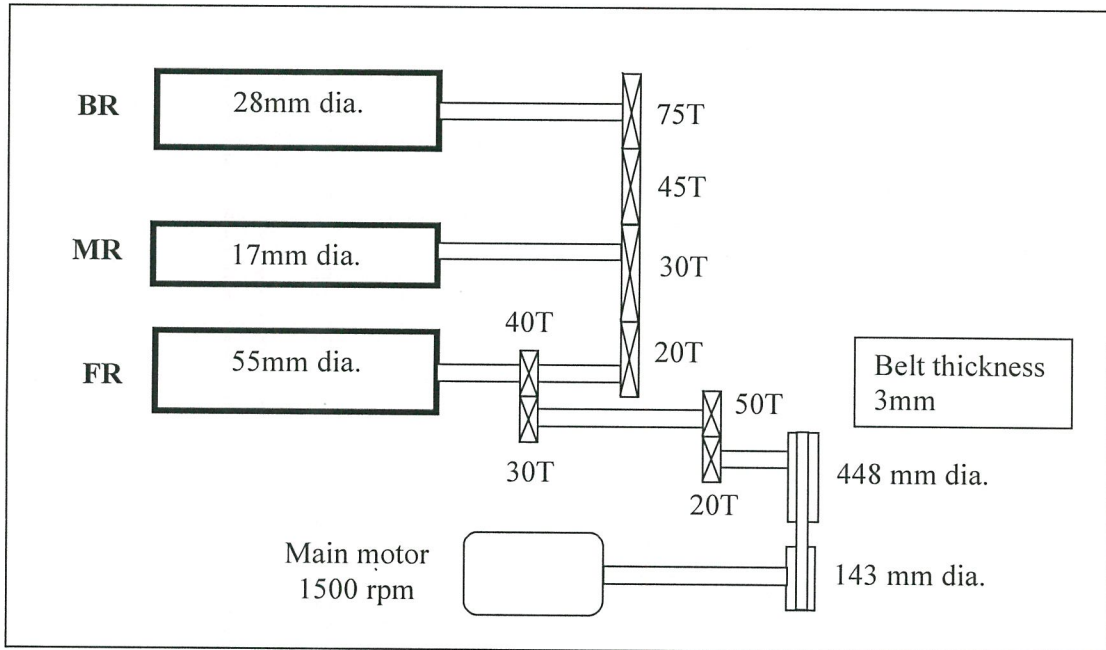

Figure Q4 (b)
- (b) **Figure Q4 (b)** shows gear arrangement for spinning process. Analyse:
- (i) Draft between Front Roller (FR) and Middle Roller (MR)